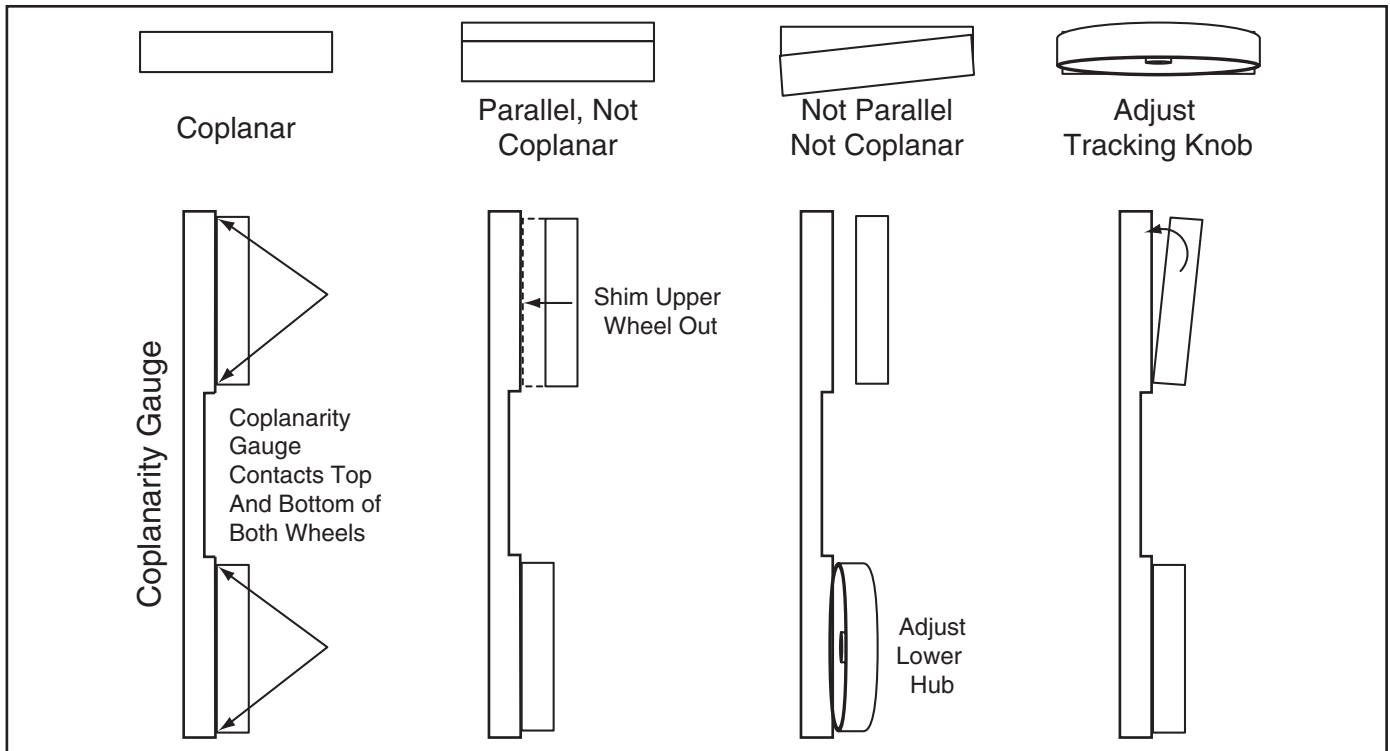

Figure 66. Coplanarity diagram.
9. **Figure 66** shows positions of wheels when coplanar. When wheels are coplanar, re-install table, table insert and pin, re-adjust guide blocks and rear support bearings, and close wheel covers.